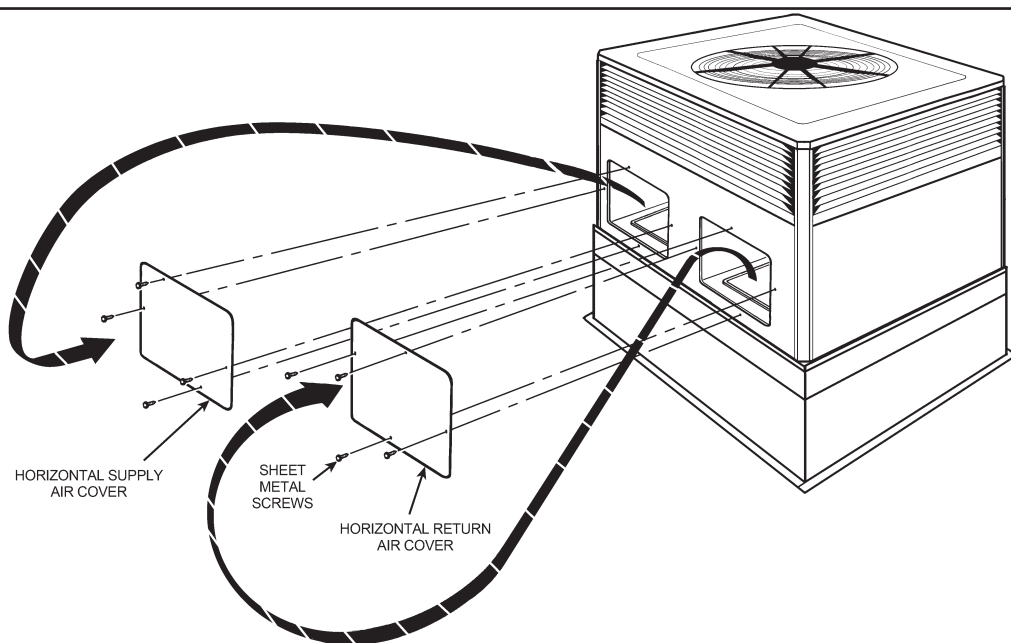

Figure 8. Converting Horizontal to Down Airflow
1. Remove the three (3) sheet metal screws securing the supply air cover and the four (4) sheet metal screws securing the return air cover from the base of the unit. Remove the covers from the base. See Figure 8, page 12.